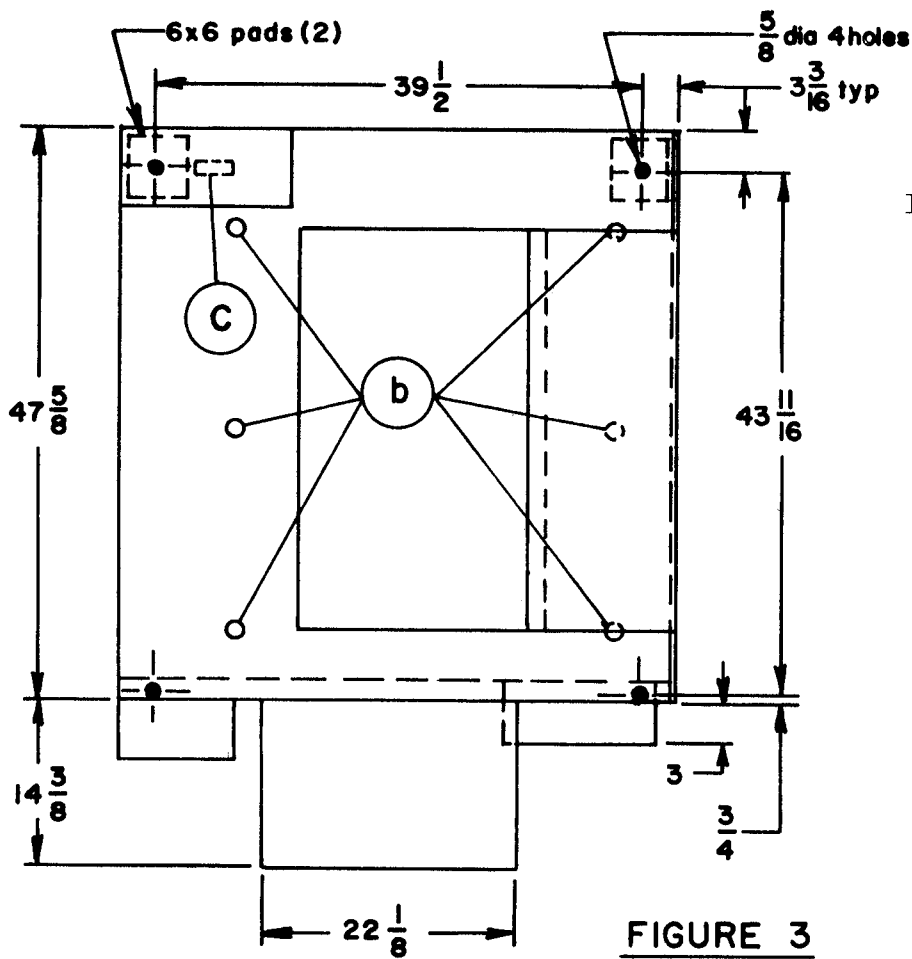

FIGURE 3
- 2.) Remove the nuts (b) holding the console to the base. (see figure 3)
- 4.) Disconnect plug (c) located in the control box. (see figure 3)